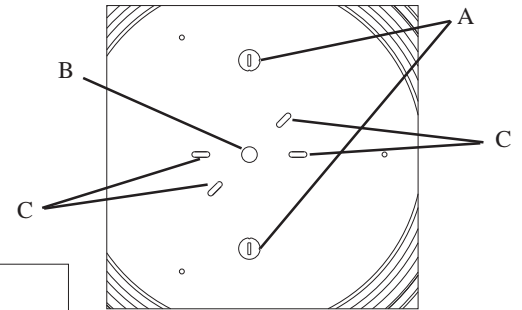

Fig. 3
5. **Remove knockouts in Wireway area.** Insert a flat blade screwdriver into small rectangle slot and pry upward to loosen knockout. Grip edge of knockout with pliers and flex back and forth until removed. **See Fig. 3, Item A.**
11. **On bottom of metal pan, locate center hole** and drill a 1/2" hole through plastic fixture housing. **See Fig. 3, Item B.**
12. **Determine location for Mounting Screws in open slot areas.** Drill 3/16" mounting holes through plastic housing. **See Fig. 3, Item C.**